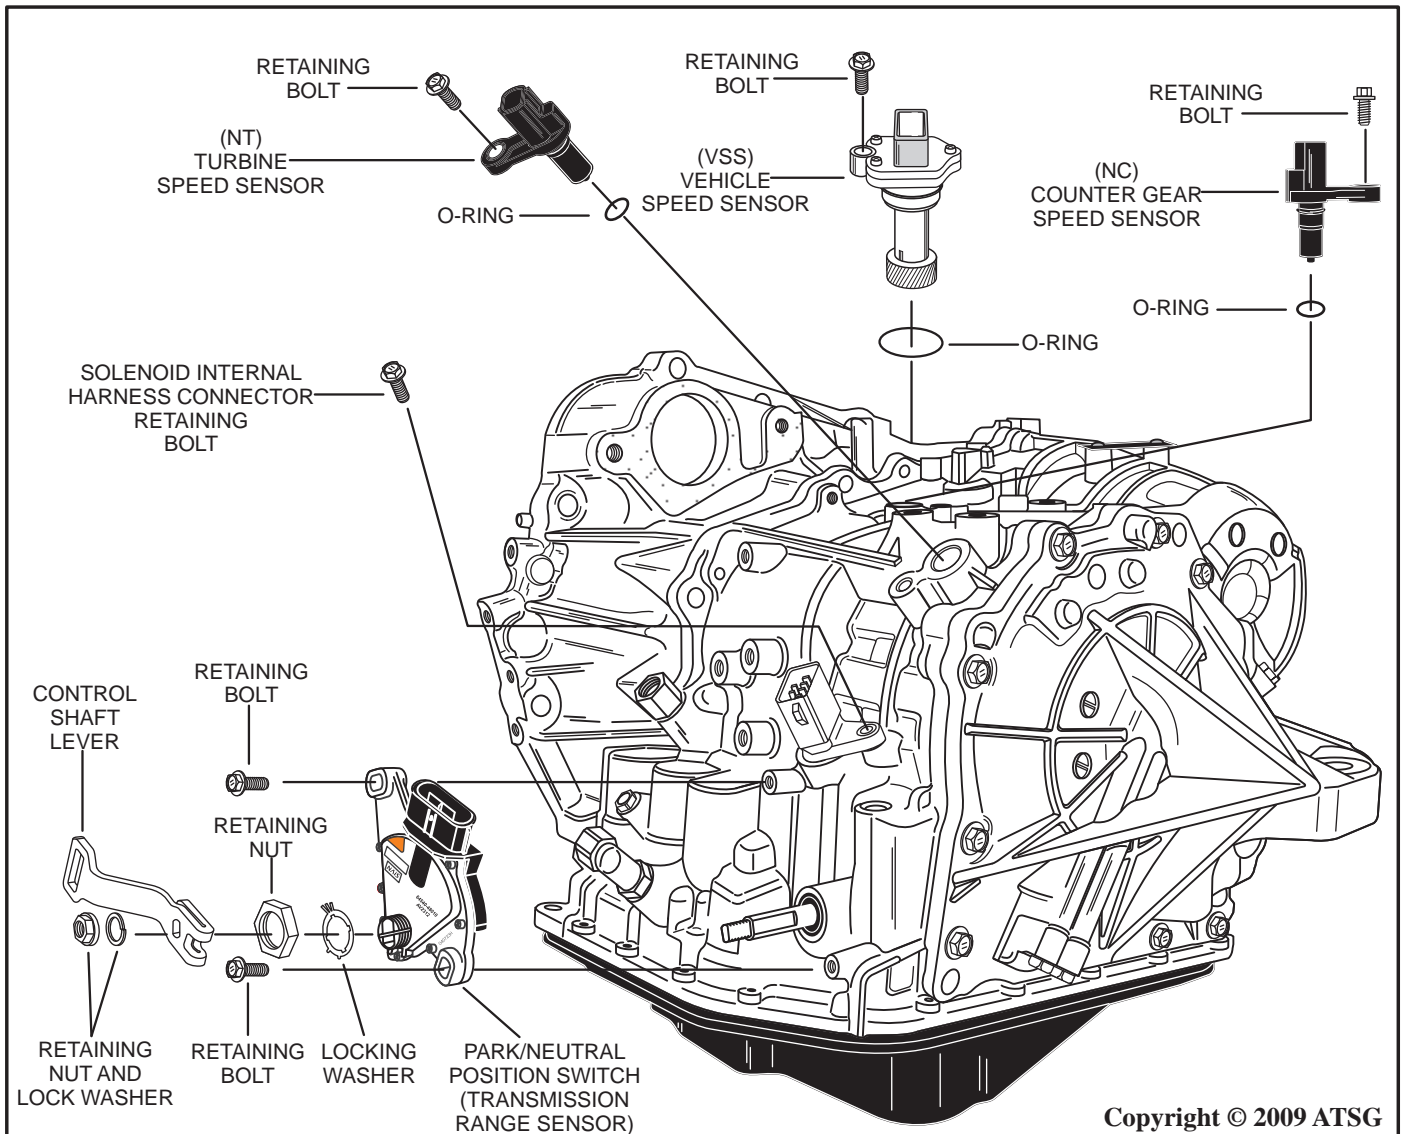

Figure 14
4. Remove the retaining nut, lock washer and control shaft lever as shown in Figure 14.
5. Use a screwdriver to pry up tabs on locking washer, then remove the retaining nut and locking washer as shown in Figure 14.
6. Remove the two retaining bolts from the park/neutral position switch then gently pry and remove the switch away from the transmission as shown in Figure 14.
7. Remove the (NT) turbine shaft speed sensor retaining bolt and the turbine shaft speed sensor as shown in Figure 14.
9. Remove the (NC) counter gear speed sensor retaining bolt and the counter gear speed sensor as shown in Figure 14.
11. Remove the (VSS) vehicle speed sensor retaining bolt and the vehicle speed sensor as shown in Figure 14.
13. Remove the solenoid internal harness connector retaining bolt as shown in Figure 14.